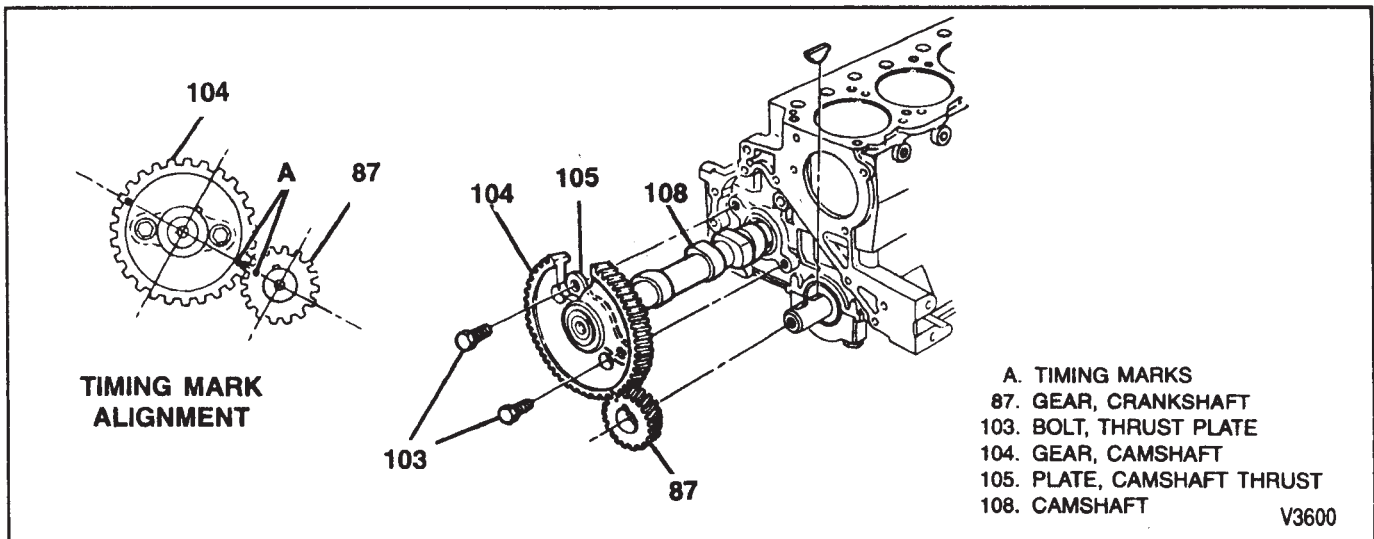

Figure 20—Camshaft and Timing Gears
### Remove or Disconnect (Figures 20 and 21)
16. Thrust plate bolts (103) (figures 20 and 21).
**Install or Connect (Figure 20)**
1. Camshaft (108) to the engine. Handle the camshaft carefully to prevent damage to the camshaft bearings.
- Line up the timing marks on the crankshaft gear and camshaft gear (figure 20).